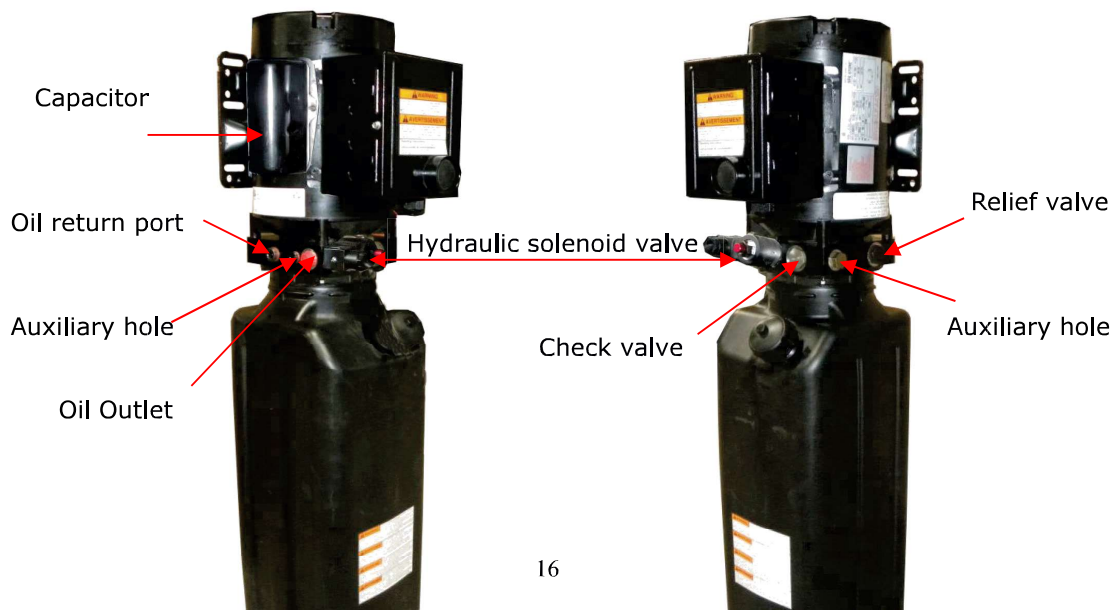

Fig. 25
a. SPX Electric power unit, 220V/50Hz/1 phase (See Fig. 25)